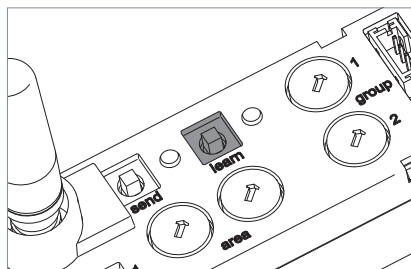

Fig. 28: "learn" key.
- Press the "learn" key and keep the key depressed for at least 15 seconds until the "learn" and "send" LEDs are permanently lit, see Fig. 28.